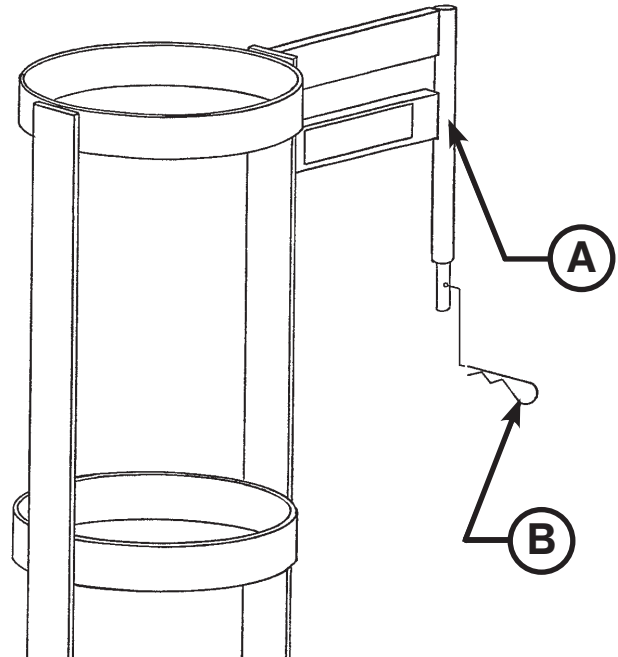

Figure 48: Upright Oxygen Bottle Holder
To install the upright oxygen bottle holder, insert the support bar (A) into the I.V. socket at any of the four litter corners. Insert the cotter pin (B) through the hole in the support bar to hold the bottle holder in place as shown in Figure 48.